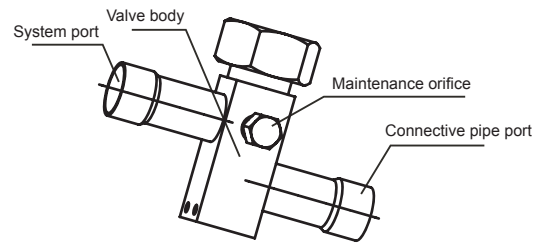

Fig. 6-5
- Upon completion of installation, open all valves before trial run. Each unit has two valves of different sizes located at the outdoor unit side. Of the two valves, one is gas valve and the other is liquid valve. The procedure of opening/closing the valve is shown in the right figure (Fig. 6-5).